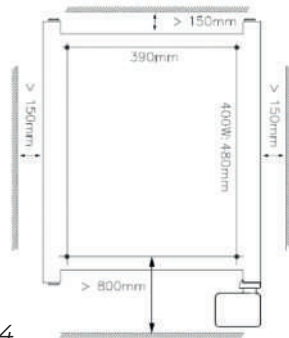

Figure 4
2. Place the device with a minimum distance (Figure 4) of: